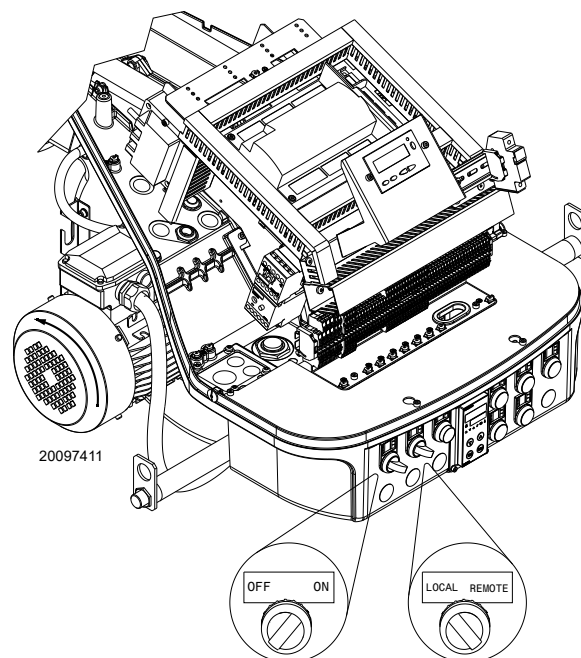

Fig. 27
Please refer to the specific manual for this operation. Turn the switch of Fig. 27 to position “ON” and turn the switch of Fig. 27 to position “LOCAL”.
Make sure that the lamps or testers connected to the solenoids, or indicator lights on the solenoids themselves, show that no voltage is present. If voltage is present, stop the burner **immediately** and check the electrical wiring. When the burner starts, check the direction of the motor rotation, as indicated in Fig. 27.
- place the switch of Fig. 27 in position “OFF” and wait for the control box to carry out the switch-off phase;